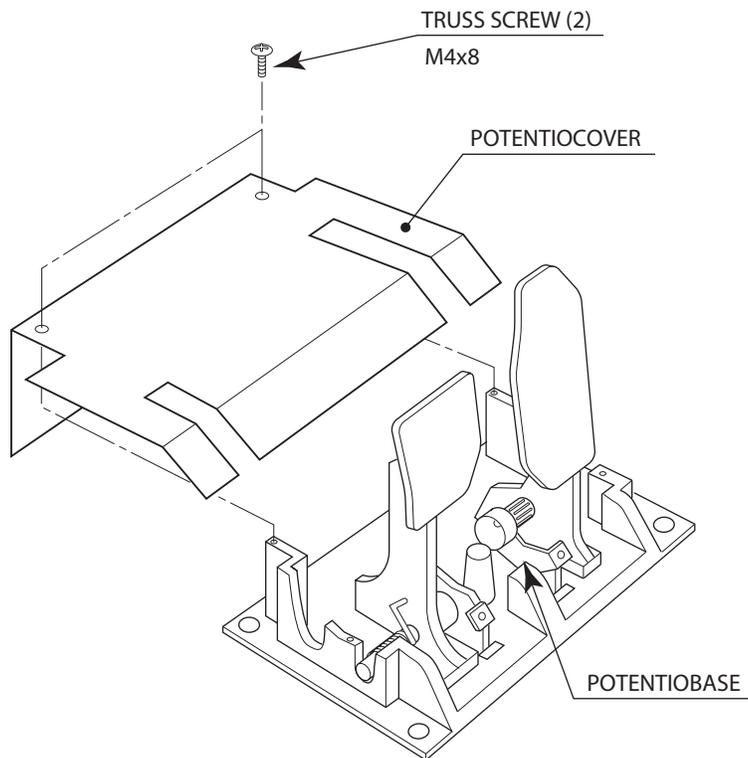

FIG. 11-1c
- 2 Remove two screws, and remove the potentiocover. (FIG. 11-1c)
- 5 With the volume still attached, remove the potentiobase. (FIG. 11-1c)